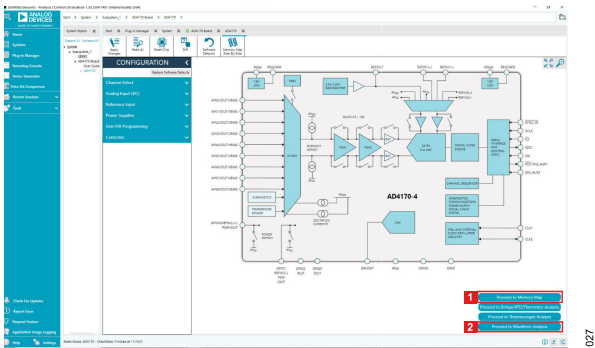

Figure 27. Chip View, Noise Test
- 3. The summary is then displayed once the write is complete. From the displayed summary, to navigate to the chip view, double-click the **AD4195-4** chip (Figure 27). To make further changes to the configuration, double-click the **Proceed to Memory Map** button (Label 1, Figure 27). To begin capturing data, double-click the **Proceed to Waveform Analysis** button (Label 2, Figure 27).